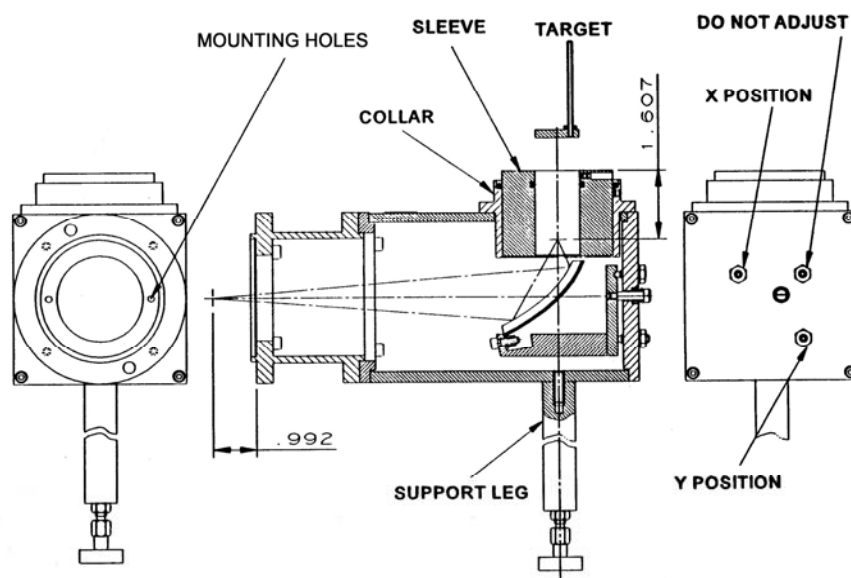

Figure 23. 1427B Detector Housing
2. Mount the front end of the housing to the appropriate exit slit using two 6-32" mounting screws. The screws pass through the two inner mounting holes of the flange (see Figure 23).